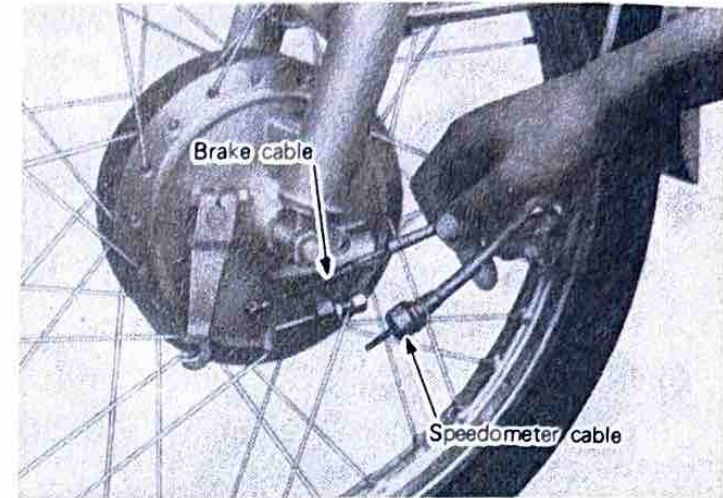

Fig. 31
- (1) Remove the brake cable and speedometer cable from the brake backing plate. (Fig.31)
- (2) Remove the 17 mm nut on the right side of the axle.
- (3) Pull out the axle from the left side.